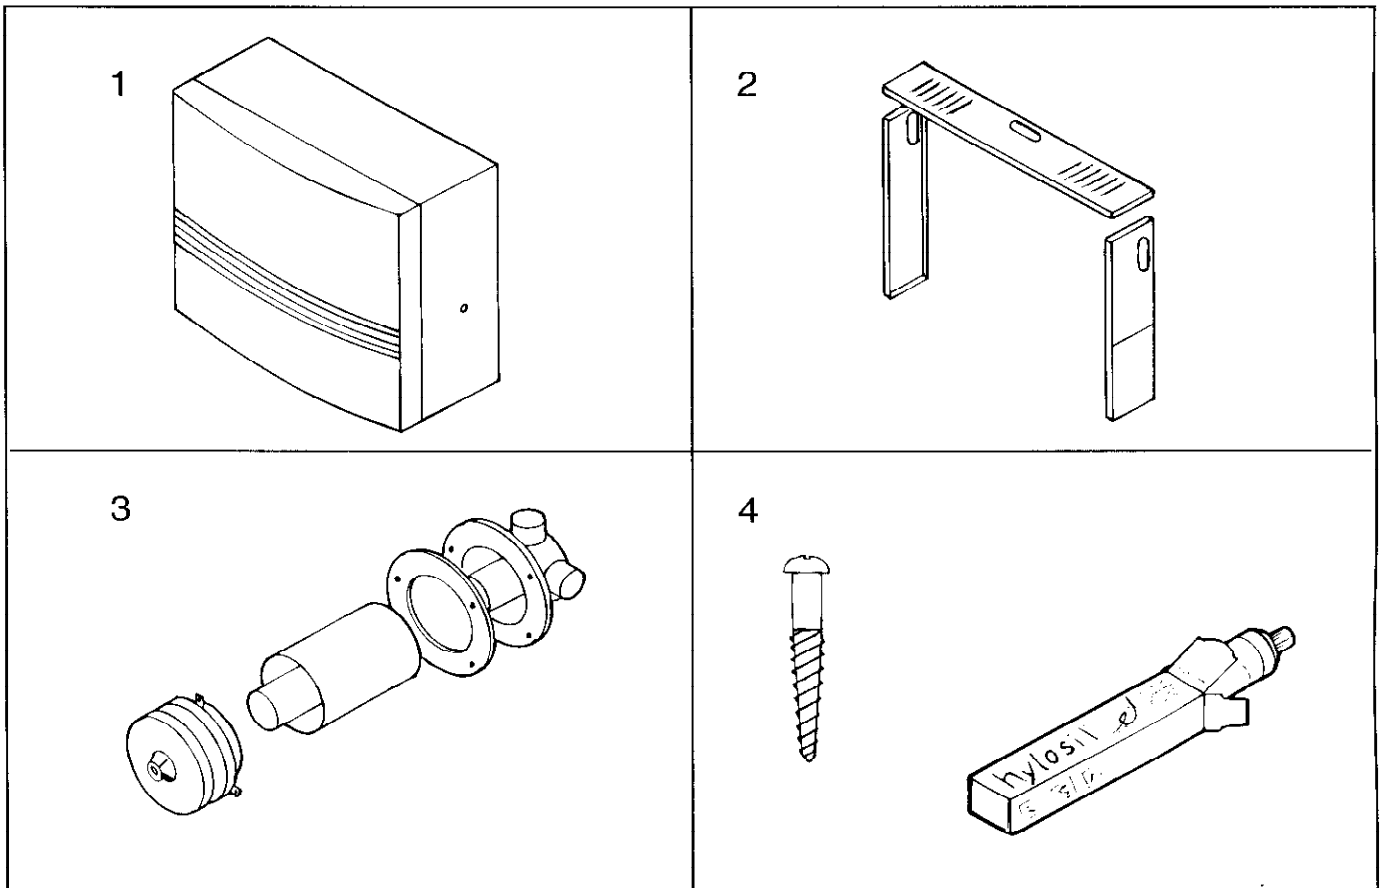
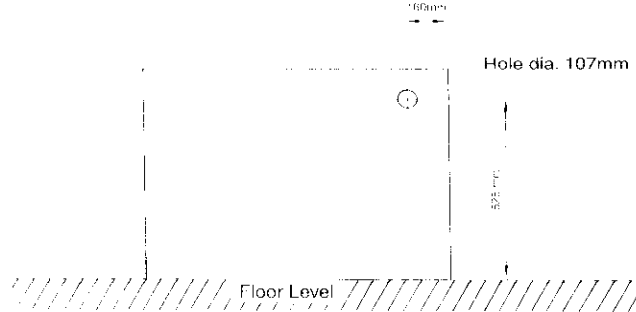

Figure 1
Figure 3
With the standard kit provided (see Fig. 1) the heater must be installed with the centre of the hole through the wall as shown in Fig. 3.
Identify the various components from Fig. 1 and check to ensure that they are complete and undamaged.
7.0 INSTALLATION (using the standard flue kit Fig 1)
- 7.1 Having chosen the location for the flue assembly and the heater, mark the position for the "hole through the wall" (Fig. 3) on the inner wall face.
- 7.22 Place the heater into its correct position relative to the hole through the wall (see Fig. 3).